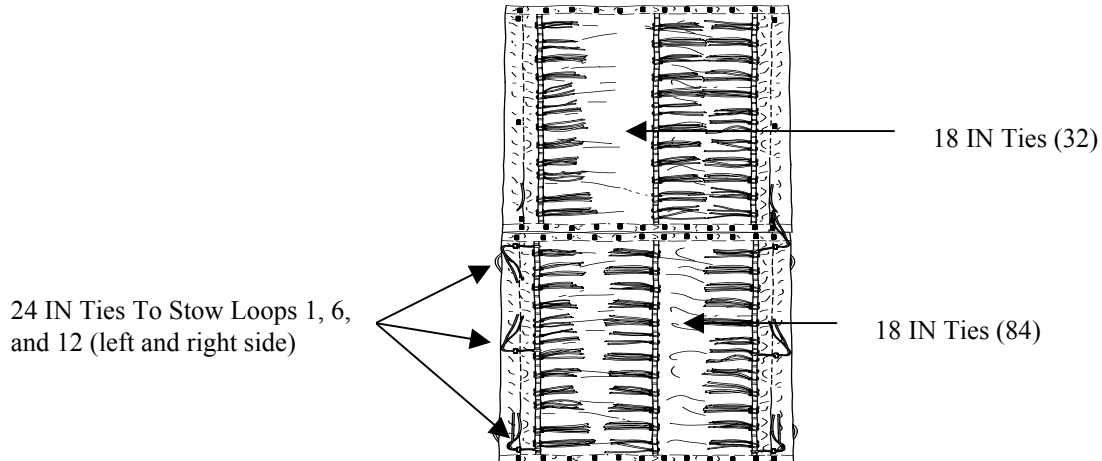

Figure 4. Extraction Line Bag with Ties Install.
- c. Cut six 24-inch lengths of type I, 1/4-inch cotton webbing. Girth hitch 3 ties to the left and right stow loop rows of the bottom panel using stow loops 1, 6, and 12 on the right side of the bottom panel. Make an overhead knot 3-inches from the bottom of the stow loop (figure 4).